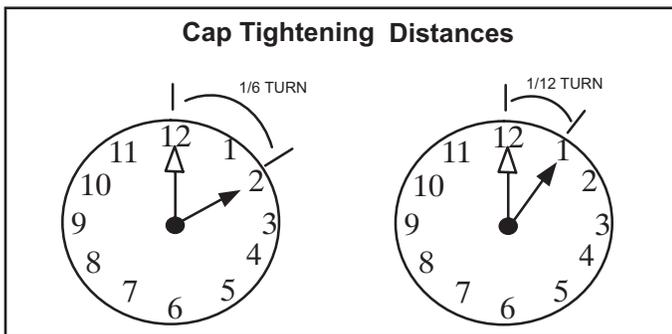

FIGURE 10
- D - Replace the stem caps and secure finger tight, then tighten an additional one-sixth (1/6) of a turn as illustrated in figure 10.